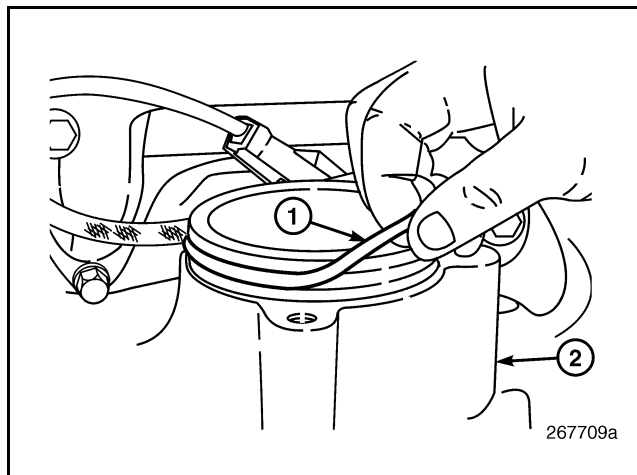

Figure 427 — O-Ring Installation
2. Clean and inspect the mounting collar on the inlet manifold. Then, install a **new** O-ring on the collar (Figure 427).